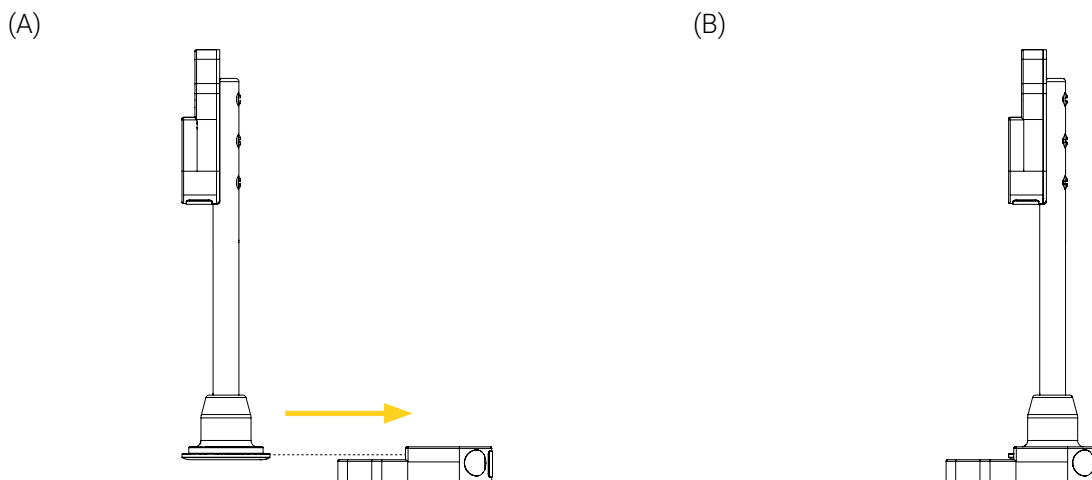
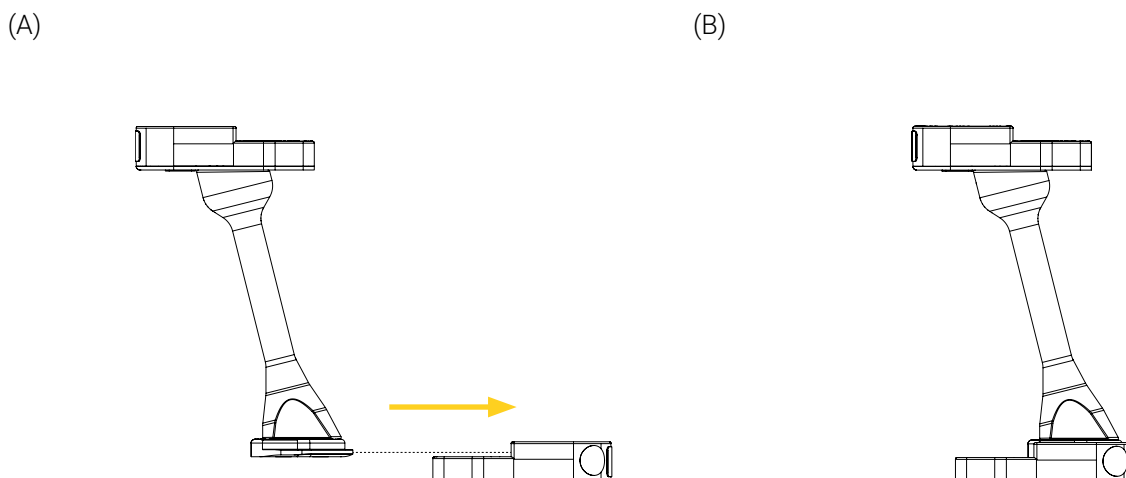

Figure 11: Installing the Safety MD-Transporter in the Micro Base (vertical, standard/short)
Figure 12: Installing the Safety MD-Transporter in the Micro Base (horizontal, angular)
1. Align and insert the micro disc (Figure 11) or anti-rotation micro disc (Figure 12) of the Safety MD-Transporter in the Micro Base horizontally until it locks. Refer to the « Safety Mechanism » section on page 19 if needed.